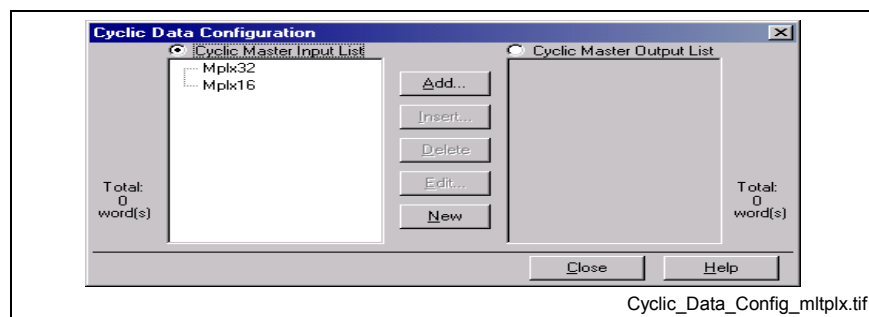

Fig. 7-139: Cyclic Data Configuration, Multiplex Containers
4. Click **OK** to add the Multiplex Container to the List. The window (Fig. 7-139) below is an example where a 16-bit Multiplex Container and a 32-Bit Multiplex Container have been added.